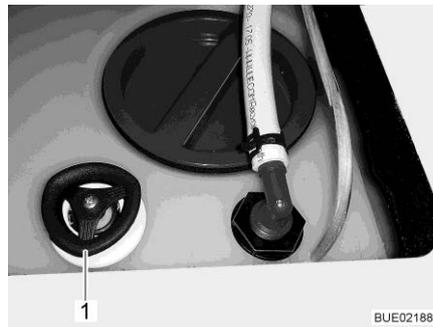

Fig. 169 Water tank with rotary handle
- Turn the rotary handle (Fig. 169,1) on the water tank in a clockwise direction as far as it will go.
- Turn the rotary handle (Fig. 169,1) on the water tank in an anticlockwise direction as far as it will go. The water drains away except for a residual amount of 60 l.